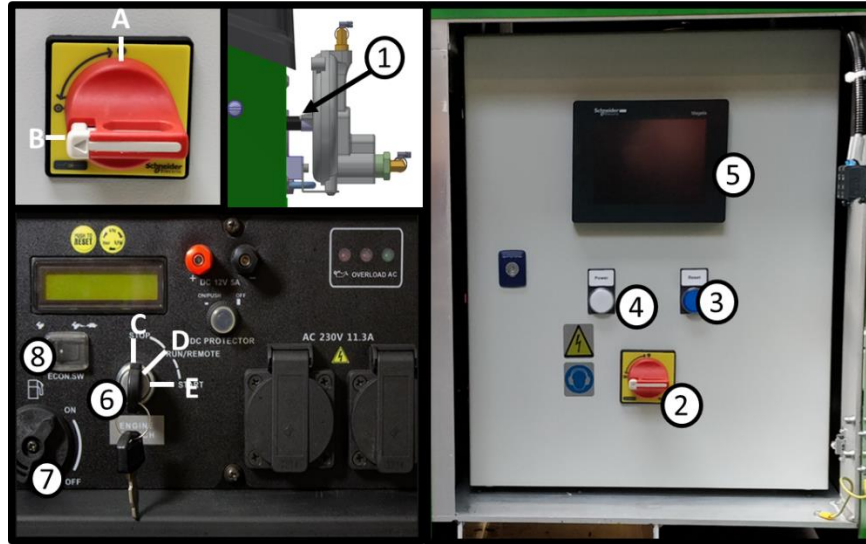
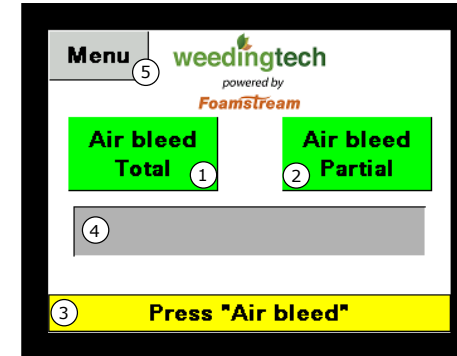
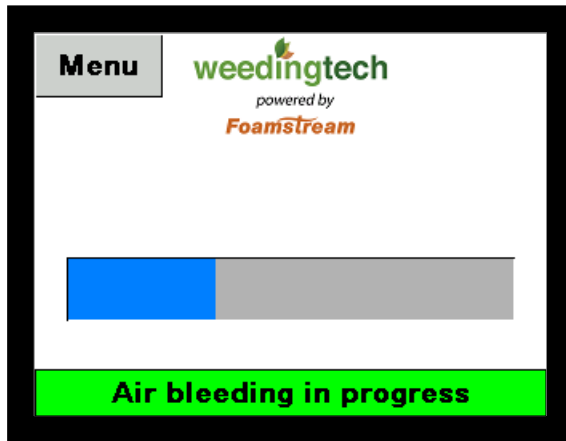

Figure 3 - M600 User Interface
Figure 4 - Start-up screen of the PLC
Figure 5 - Bleed screen of the PLC
- Turn the fuel switch (item 7 in Figure 3) to the **OFF** position.
- ✓ Press and hold priming button on regulator (item 1 in Figure 3)
- ✓ Turn fuel switch to **OFF** position on generator (item 7 in Figure 3)
- ✓ Start the generator by turning key (item 6 in Figure 3) in a clockwise direction by either:
- ✓ Turn the isolator switch (item 2 in Figure 3) to position **A**, the PLC screen (item 5 in Figure 3) should illuminate
- ✓ Press the **RESET** button (blue button, item 3 in Figure 3), the **FAULT** indicator goes out and you should see the screen represented in Figure 4.
- ✓ Wait a few seconds before requesting air bleed: buttons **1** or **2** in Figure 4.
- ✓ Once button **1** or **2** of Figure 4 are pressed the bleed screen represented in Figure 5 will appear.